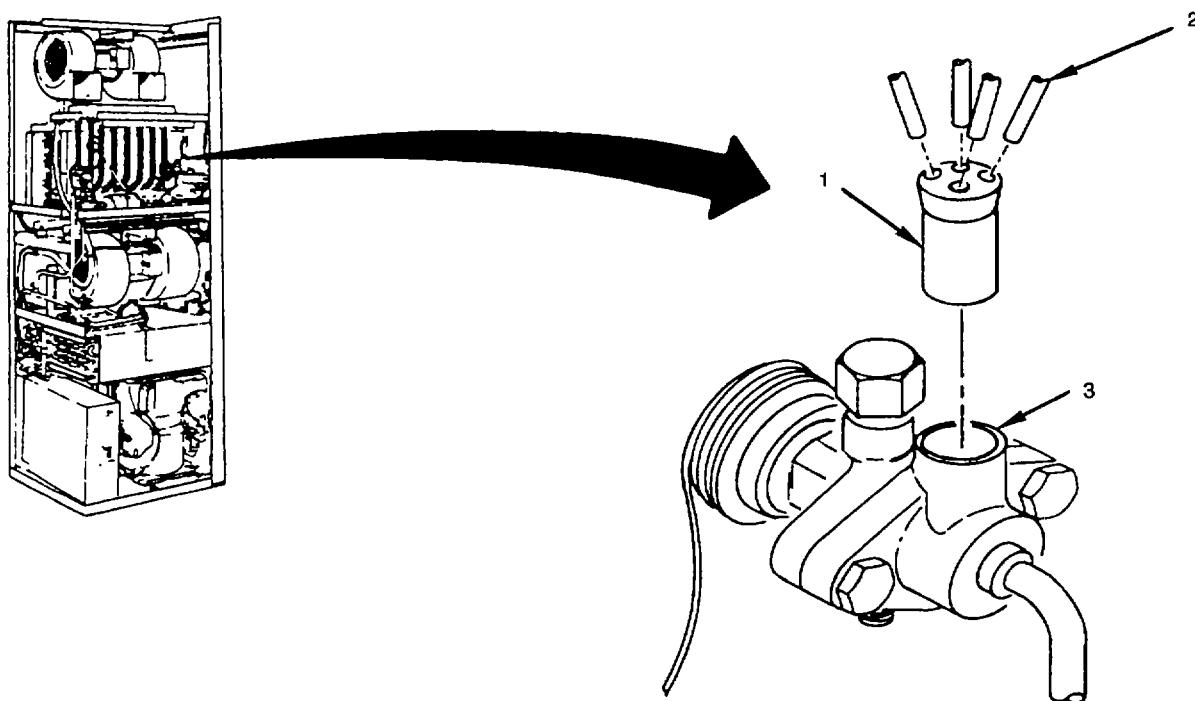

Figure 5-26. Distributor
- (1) Disconnect air conditioner input power at source; and
- (2) Remove return air filter (paragraph 4.26).
- a. Check for signs of leakage (see fig 5-26). Leak test. If leak is suspected (paragraph 5.13).
- c. Debraze distributor (1) at valve joint (3) (paragraph 5.12).